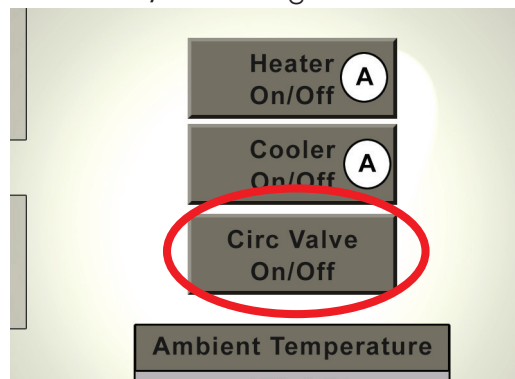

Figure 3: HMI Screenshot with Allen-BradleyPLC
8. On rigs with wrench Allen-Bradley PLC controls, select the "Temperature" screen from the page tabs and press **Circ Valve On/Off**. See Figure 3.